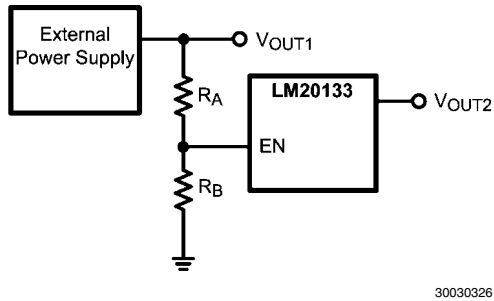

FIGURE 6. Sequencing LM20133 with Precision Enable
The LM20133 has a built-in under-voltage lockout protection circuit that keeps the device from switching until the input voltage reaches 2.7V (typical). The UVLO threshold has 45 mV of hysteresis that keeps the device from responding to power-on glitches during start up. If desired the turn-on point of the supply can be changed by using the precision enable pin and a resistor divider network connected to V_{IN} as shown in *Figure 6* in the design guide.
The precision enable (EN) and power good (PGOOD) pins of the LM20133 can be used to address many sequencing requirements. The turn-on of the LM20133 can be controlled with the precision enable pin by using two external resistors as shown in Figure 6.